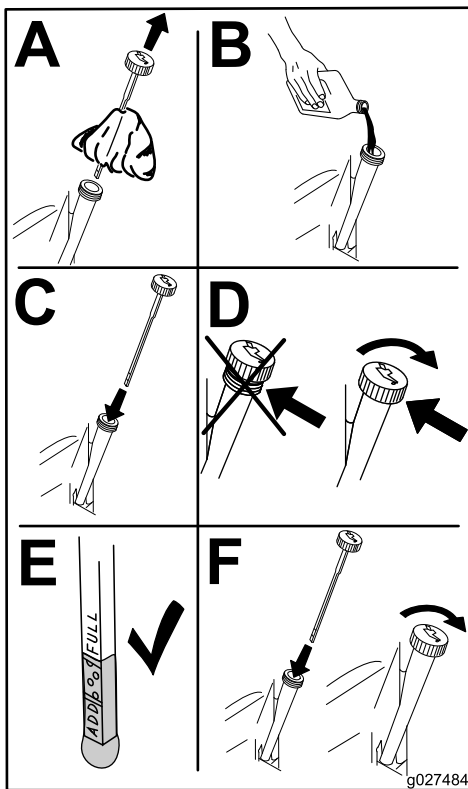

Figure 30
6. Slowly pour approximately 80% of the specified oil into the filler tube and slowly add the additional oil to bring it to the **Full** mark (Figure 30).